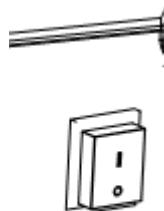

Figure.2
- g. Turn the power switch to position I and check that the fan starts running correctly. (Figure. 2)